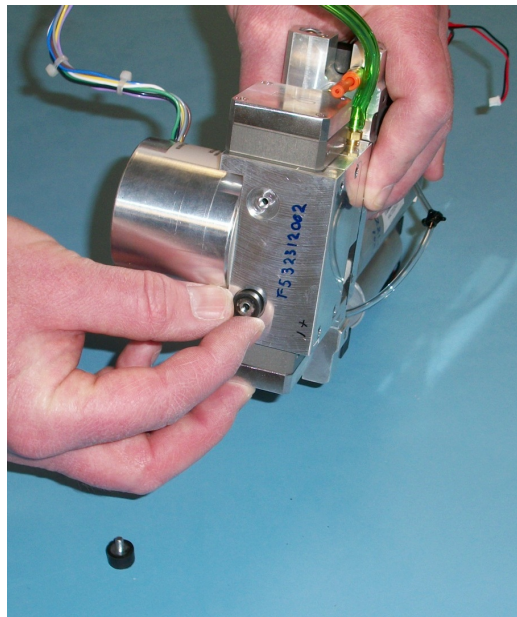

Figure 5.17
14. Remove the two mounts from the compressor. (See Figure 5.17.)